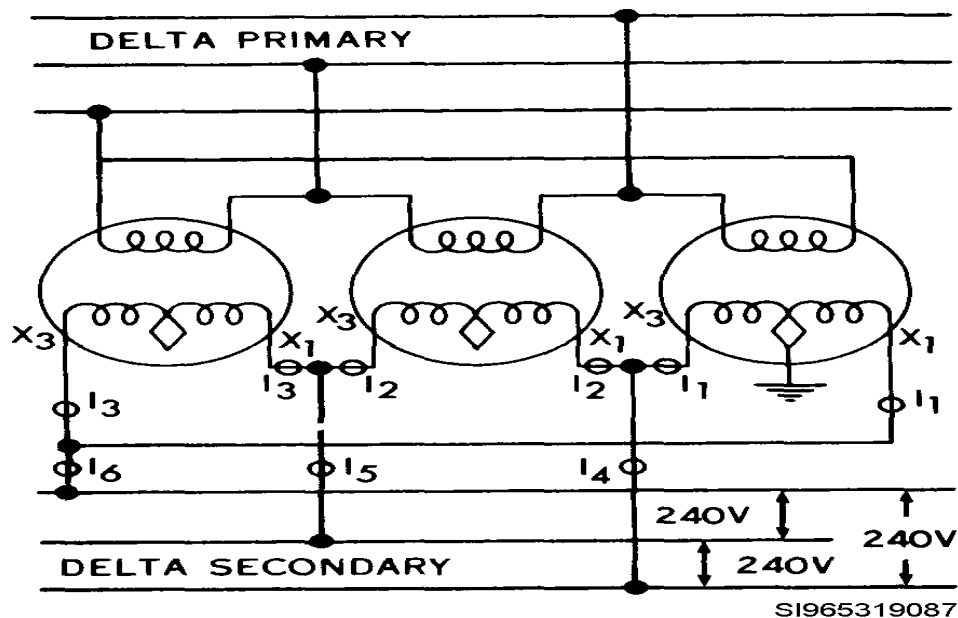

Figure 4, Delta/Delta For Power Only
**Step 6: Primary Connection for a delta / as seen in Figure 4 above.**
**Step 7: Secondary Connection for a delta / delta as seen in Figure 4 above.**